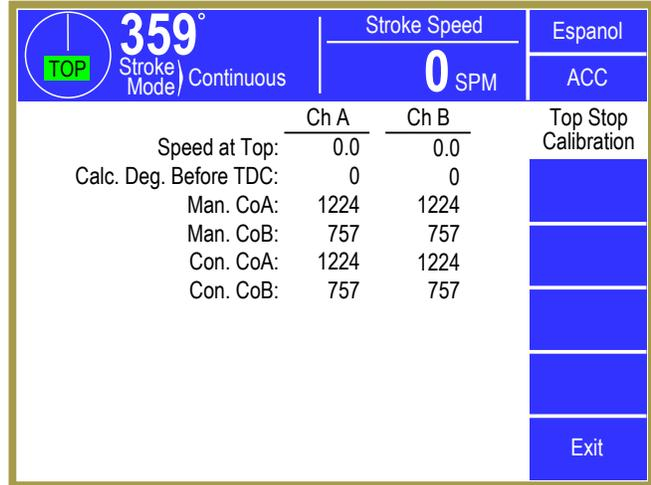

Figure 74: Top Stop Calibration Factory Diagnostics Screen
5) When the press control is operating with a calibrated stopping curve, the calculated speed and degrees before top dead center can be viewed in the “Factory Diagnostics” screen shown in Figure 74, and should indicate the actual values for this speed.